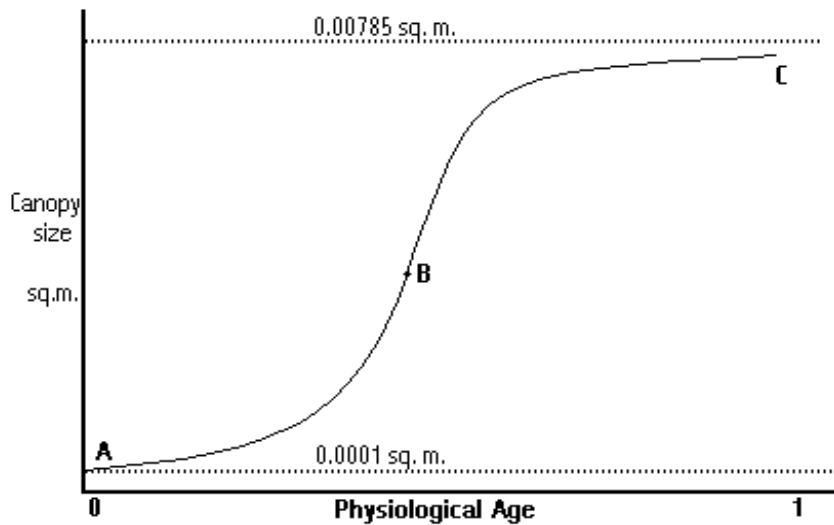
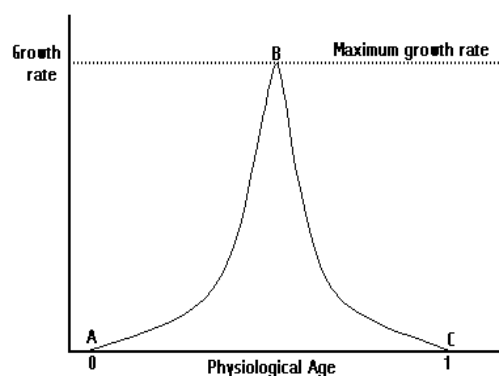

Figure 11.1 Canopy Size as a function of Physiological Age
Figure 11.2 Gen-weed growth rates as modelled by Pradhan's Function
The Gen-weed model assumes that each plant, when it is a seedling, has a canopy area of 1 cm^2 (ie. 0.0001 m^2). At maturity, each adult Gen-weed has a circular canopy 10 cm in diameter which can be shown to contain 0.00785 m^2 . If the canopy area is a function of physiological age, then the best approximation is given by a logistic function as shown in figure 11.1.
The slope of the logistic function (which is equivalent to the growth rate of the Canopy Area) can be modelled by reference to Pradhan's Function as shown below in figure 11.2 .
When this function is inserted into the Canopy Area property of the Adult Plant it will be called the 'Physiological Age Related Growth Rate' and will partially determine the development and size of the Canopy Area. The points A, B and C on figure 11.2 correspond to those marked accordingly on figure 11.1 . Point A therefore indicates a physiological age of zero and point
C indicates a physiological age of one. The area under the curve for Pradhan's Function will here have a value equal to the canopy area of one adult plant. Users should recognise that although the Growth Rate in figure 11.2 is driven by physiological age, physiological age is in turn dependent upon field temperatures and so ultimately, the canopy area is indirectly being determined by field temperatures; the model does not use soil moisture other than for germination.
The value of the maximum growth rate ('B' in figure 11.2) is unknown but can be modelled on a trial basis. If the logistic function of figure 11.1 is considered, its shape is always symmetrical but the slope at point 'B' depends on whether the function rises sharply or gently to the maximum canopy size asymptote. Obviously, for very long lived plants with slow growth rates, the slope at 'B' will be very small and the curve will extend far to the right of the graph. For short lived, rapid growth plants, the slope will be very steep and approach a 'step' function. To start model trials for the annuals, a simple solution is to assume a 45° slope and therefore the Growth Rate value assigned to 'B' for Pradhan's Function will be one(1) with a lower limit of zero(0) and an upper limit of about 100 ($\tan 89.43^\circ \approx 100$).